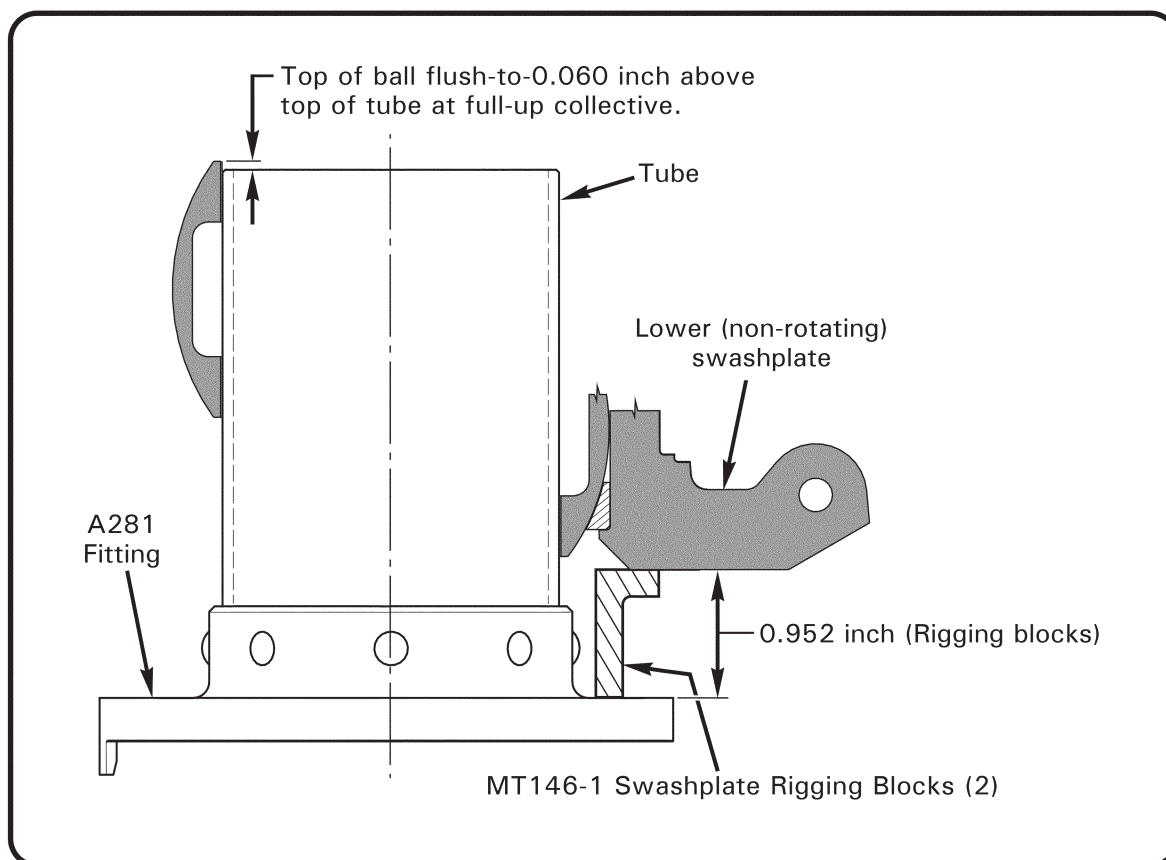

FIGURE 10-2 LOWER SWASHPLATE CLEARANCE
- a) With the cyclic and collective controls locked in position per Section 10.111, adjust the A121-7 and A121-5 push-pull tubes to obtain a constant clearance from the A281-1 flange. The minimum clearance from the flange is 5/8 inches. (See Figure 10-2) Nominal setting is 3/4 inches.